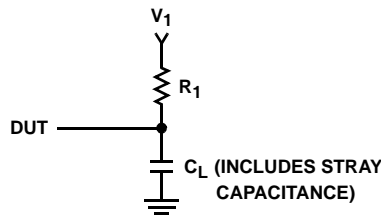

FIGURE 4.
7. See Load Test Circuit, Figure 4,  $R_1 = 10k\Omega$ ,  $C_L = 50pF$ .